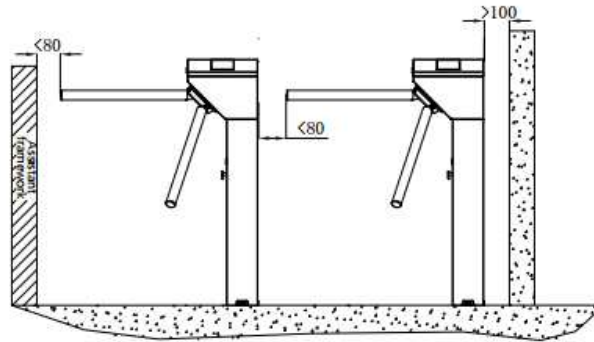

Figure 3-1
The equipment must be installed on concrete ground, ensuring that expansion bolts can be secured firmly. You are suggested to install an assistant framework or fence to form a passageway, as shown in figure 3-1.
2. The space at the end of the arm shall not be greater than 80mm (see figure 3-1).